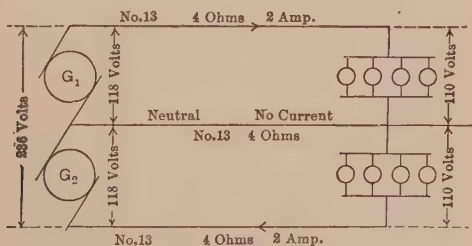

FIG. 93. Three-wire system; balanced. Neutral carries no current.
The generator also has to have a special device to which this third wire is attached. It is much simpler, however, to consider the generator as divided into two 110-volt generators in series as in Fig. 93, with the neutral coming to the junction of the two.
When there are the same number of lamps burning on each side of the neutral, as in Fig. 93, the neutral carries no current, and the system is said to be **balanced**. It is only when the system is **unbalanced** that the neutral is of use
The lamps of both groups were made to run on 110 volts as in Fig. 93, and would probably be ruined by 122 volts. We can say, then, that the result of extreme unbalancing is to so greatly disturb the voltage distribution, that appliances built for special voltages would not operate satisfactorily on the system.
**Prob. 104.** Find the voltage distribution if the neutral in Fig. 93 broke.